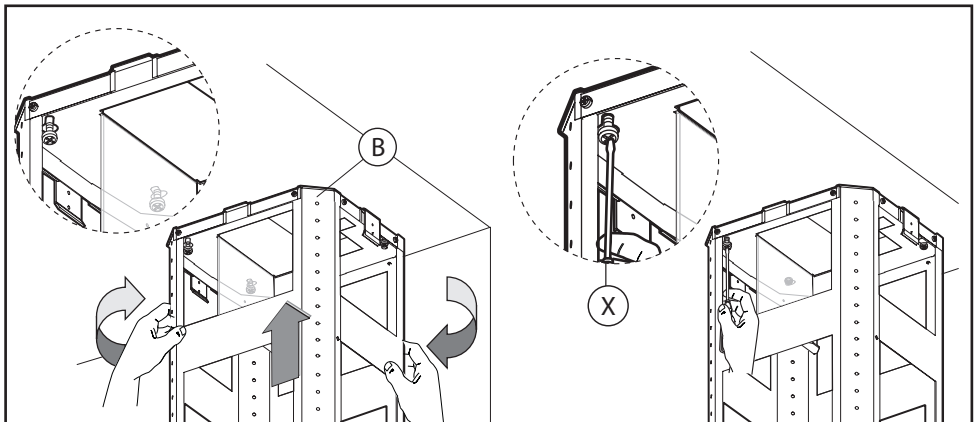

Fig.3
- Take the upper part of the structure **B** (**Fig.3**) and insert the 3 slots onto the 3 screws that are not completely tightened. Rotate slightly to fit (**Fig.3**). Drive in the fourth screw **X** and tighten the remaining 3 to allow definitive blocking of the upper part of structure **B**.
**Fig.3:** To fix the air diverter **A** on the support's bracket using the screw **B** as it is shown in the figure. Once that the air diverter **A** has been fixed, it is necessary to connect the flexible pipe (**6" ROUND FLEXIBLE METAL DUCT PIPE NOT INCLUDED**).